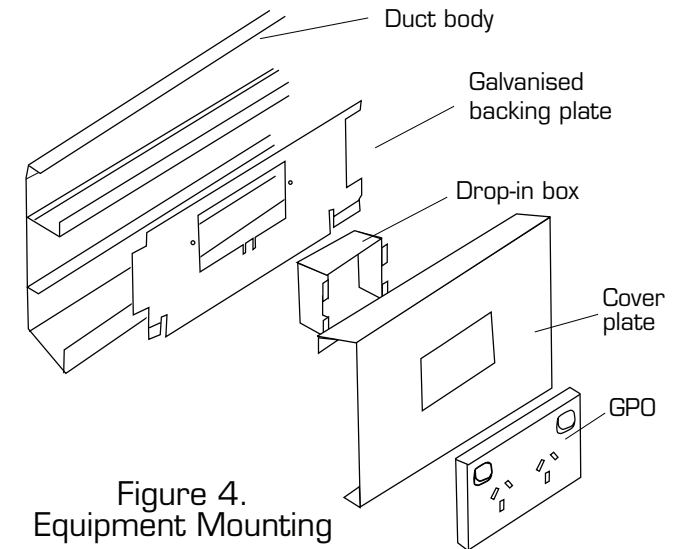

Figure 4.
- 5) Position the galvanised backing plate where the service outlet is going. Refer Figure 4.
- 7) Screw the outlet to the galvanised backing plate once the segregation box is in position. Refer Figure 4.
- 8) Screw the outlet to the drop-in box through the backing plate (refer Figure 4).